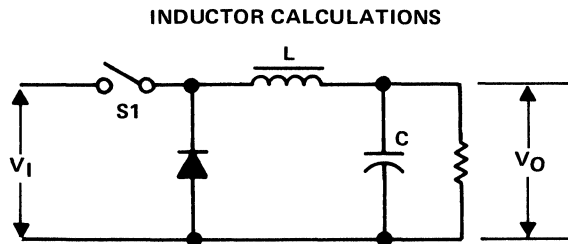

Figure 24. Switching Circuit
The switching circuit used is shown in Figure 24. The size of the inductor (L) required is calculated as follows: